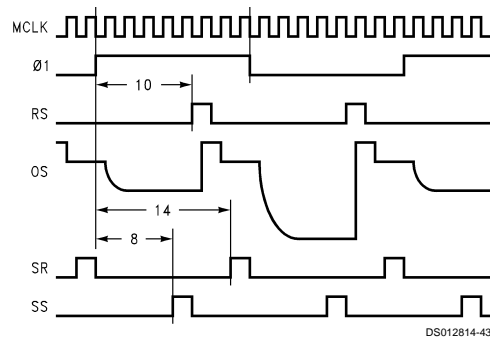

FIGURE 35. Typical Even/Odd Timing
The Mode is set to Even/Odd, RS Pulse Width is set to its minimum value, and RS polarity is positive. The timing, shown in Figure 35, is determined by the RS, SR, and SS registers. The RS pulse position (RS) is set to 10, dividing the pixel period so that the *signal* portion is available for the first 5 MCLKs following a $\phi 1$ clock edge and the *black reference* portion appears during the last 2 MCLKs (following the 1 MCLK wide reset pulse). Sample Reference (SR) is set to 14, so it samples the black reference just before the next $\phi 1$ clock edge. Sample Signal (SS) is set to 8, so it samples the black reference just before the next reset pulse. These values can be adjusted to account for differences in CCDs, CCD data delays, settling time, etc., but this is often not necessary.